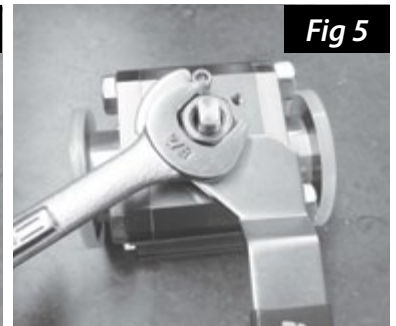

Fig 5
2. Next, remove the valve handle by removing the top stem nut with the 7/8" wrench. Set the nut aside for later use (Fig 5). **Tip: With one hand, hold the valve handle firmly and with the other hand use the wrench to loosen the nut.**